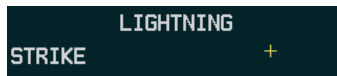

Figure 6-19 XM Lightning Legend
- 1) Press the **MAP** Softkey (for the PFD Inset Map, press the **INSET** Softkey). This step is not necessary on the Weather Data Link (XM) Page.
- 2) Press the **XM LTNG** Softkey (**LTNG** Softkey on the Weather Data Link (XM) Page).
To display the XM Lightning legend on the Weather Data Link (XM) Page (Figure 6-19), press the **LEGEND** Softkey when XM Lightning is selected for display.